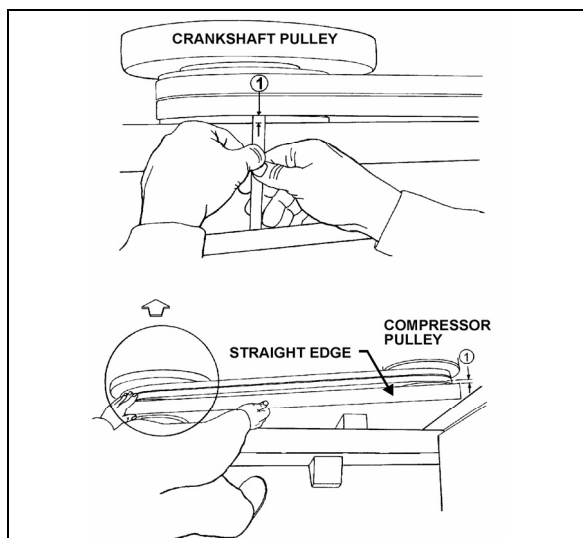

FIGURE 22: COMPRESSOR ALIGNMENT
2. Check the distance between each extremity of straight edge (1. Fig. 22) and the first drive belt. If they are different, loosen the compressor support bolts and with a hammer, knock support to slide it in order to obtain the same distance; then tighten bolts.
2. Check the distance between each extremity of straight edge (1. Fig. 22) and drive belt. If they are different, loosen the pillow block compressor bolts and with a hammer, knock compressor pillow block to slide it, in order to obtain the same distance; then tighten bolts.